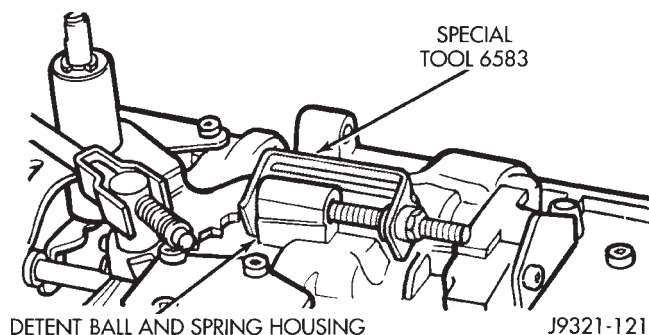

Fig. 64 Securing Detent Ball And Spring With Retainer Tool
(40) Insert detent spring and ball into opening in valve body and install Retainer Tool 6583 (Fig. 64).